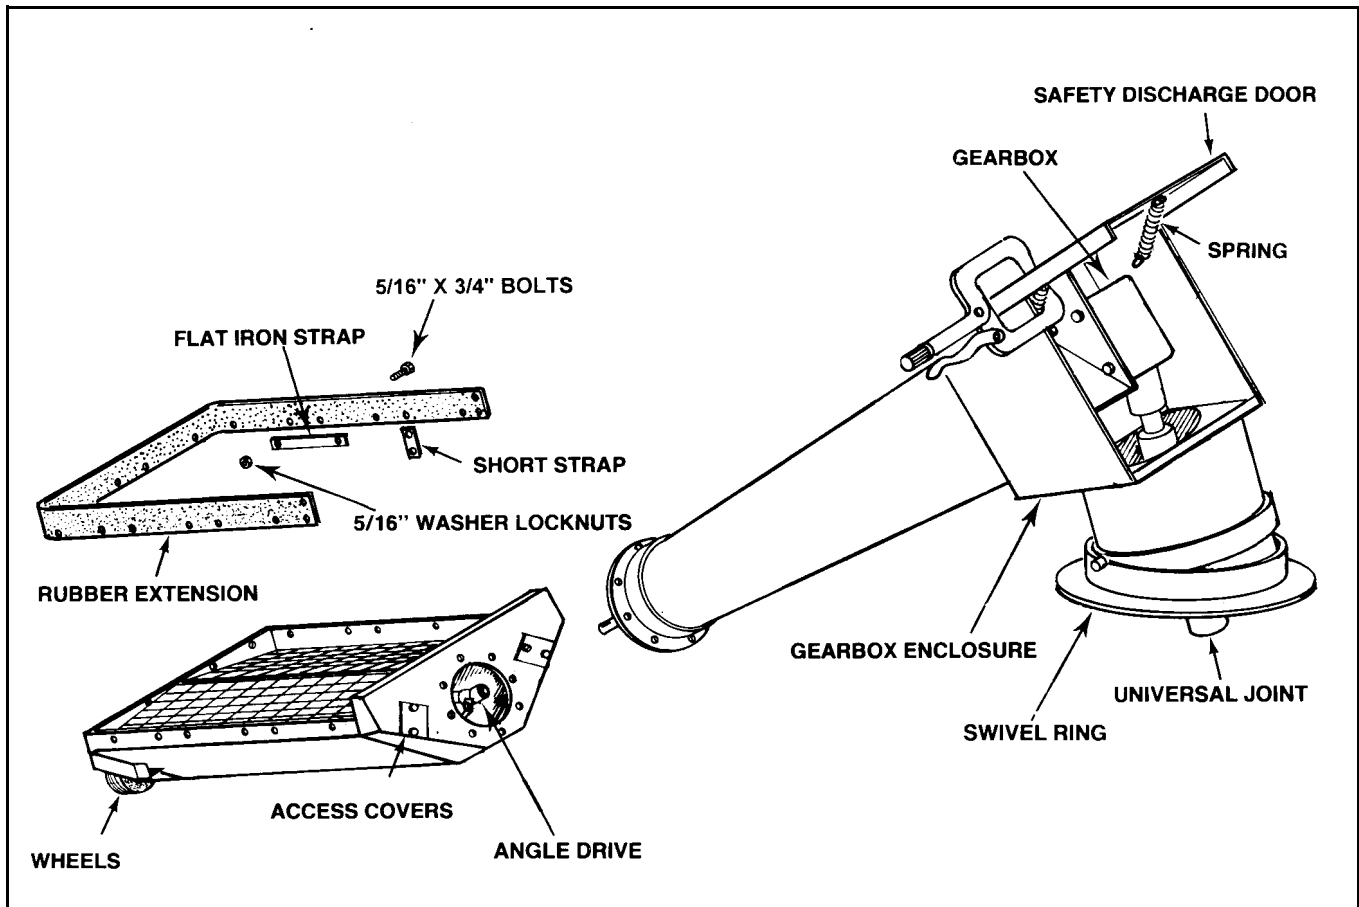

Figure 3.17
6. Install the 2 wheels to the hopper bottom with a washer and cotter pin each (Figure 3.17).